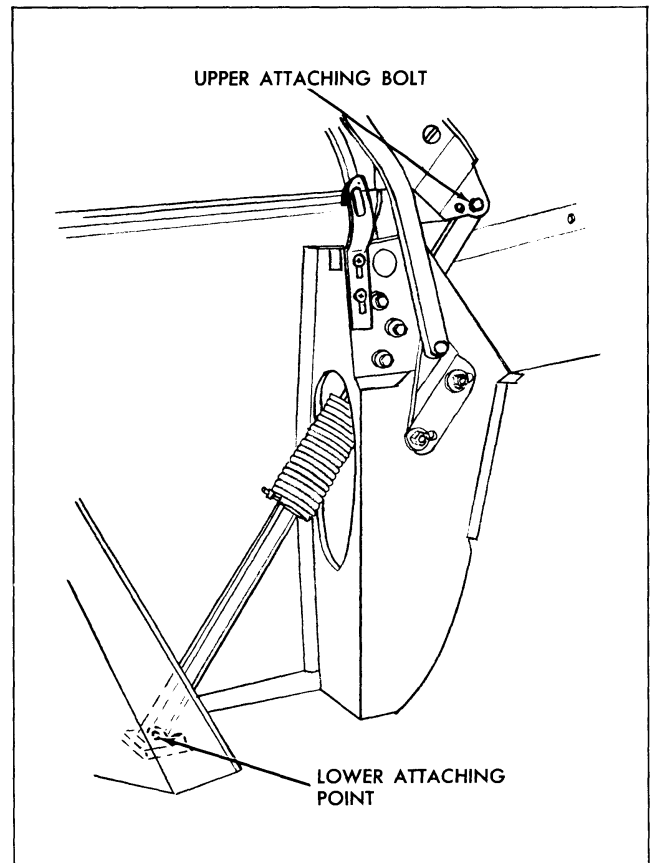

Fig. 22-27 Manual Lift Assembly
3. Remove upper and lower attaching bolts. Raise upper end of lift assembly, then move lower end of lift assembly up and forward until lift assembly is clear of oblong hole in top compartment brace (Fig. 22-27).
4. To install manual lift assembly, reverse removal procedure making sure that upper end of lift is attached to the rearmost hole in the side roof rear rail assembly (Fig. 22-27).